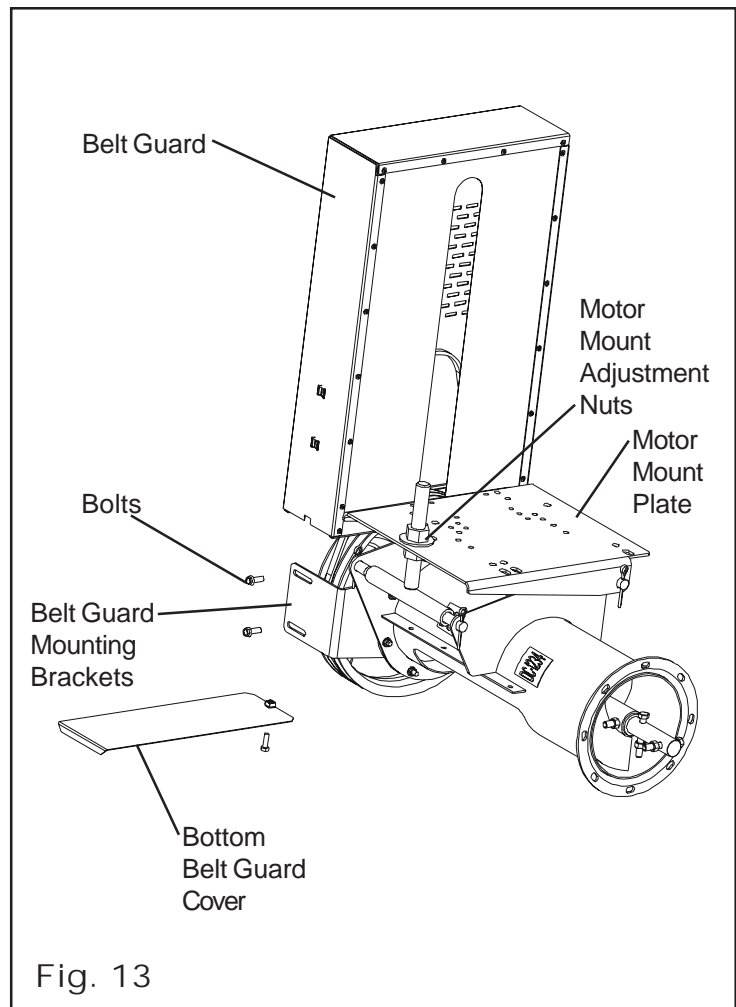

Fig. 13
- C. Align the motor shaft and the Flight Drive Shaft in the Belt Guard's slot, making sure that the Belt Guard DOES NOT contact either pulley, and tighten down the Belt Guard Mounting Brackets to the Bearing Plate. (See Figure 13)